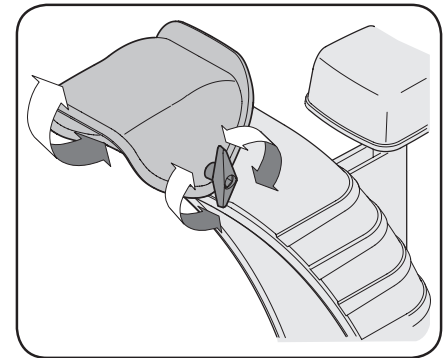

Figure 2-48
1. Loosen wing knob found on left side of chute assembly. See Figure 2-48.